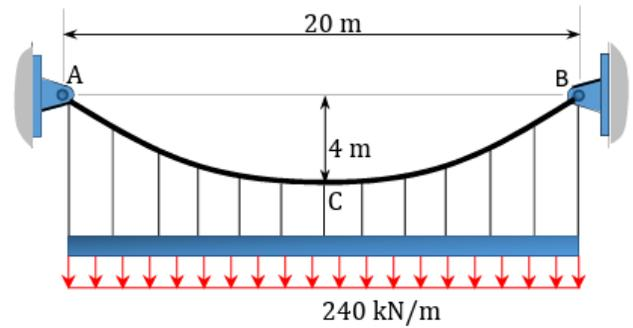

Fig.6
- b) A cable subjected to a uniform load of 240 N/m is suspended between two supports at the same level 20 m apart, as shown in Fig.6. If the cable has central sag of 4 m, determine the horizontal reactions at the supports, the minimum and maximum tension in the cable, and the total length of the cable. 8 CO6 [K3]